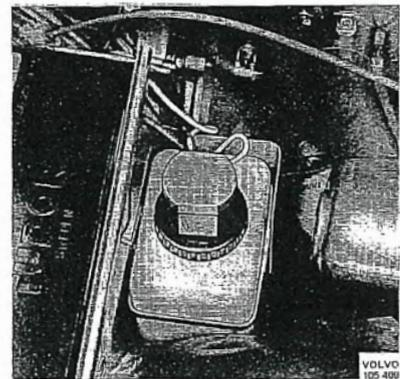

Fig. 1-18. Fluid container
4. Check that fluid container for windshield washer is filled (see Fig. 1-18).